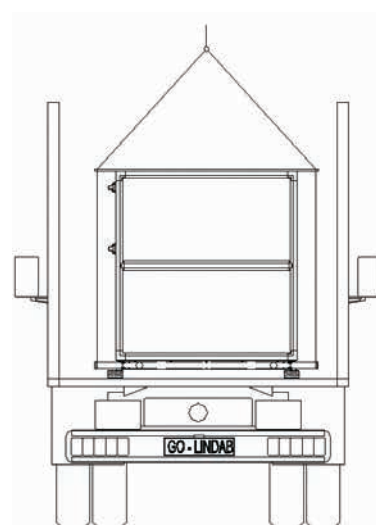

Figure 2
- When loading and unloading with the crane always use lifting tubes as it is shown on Figure 2.